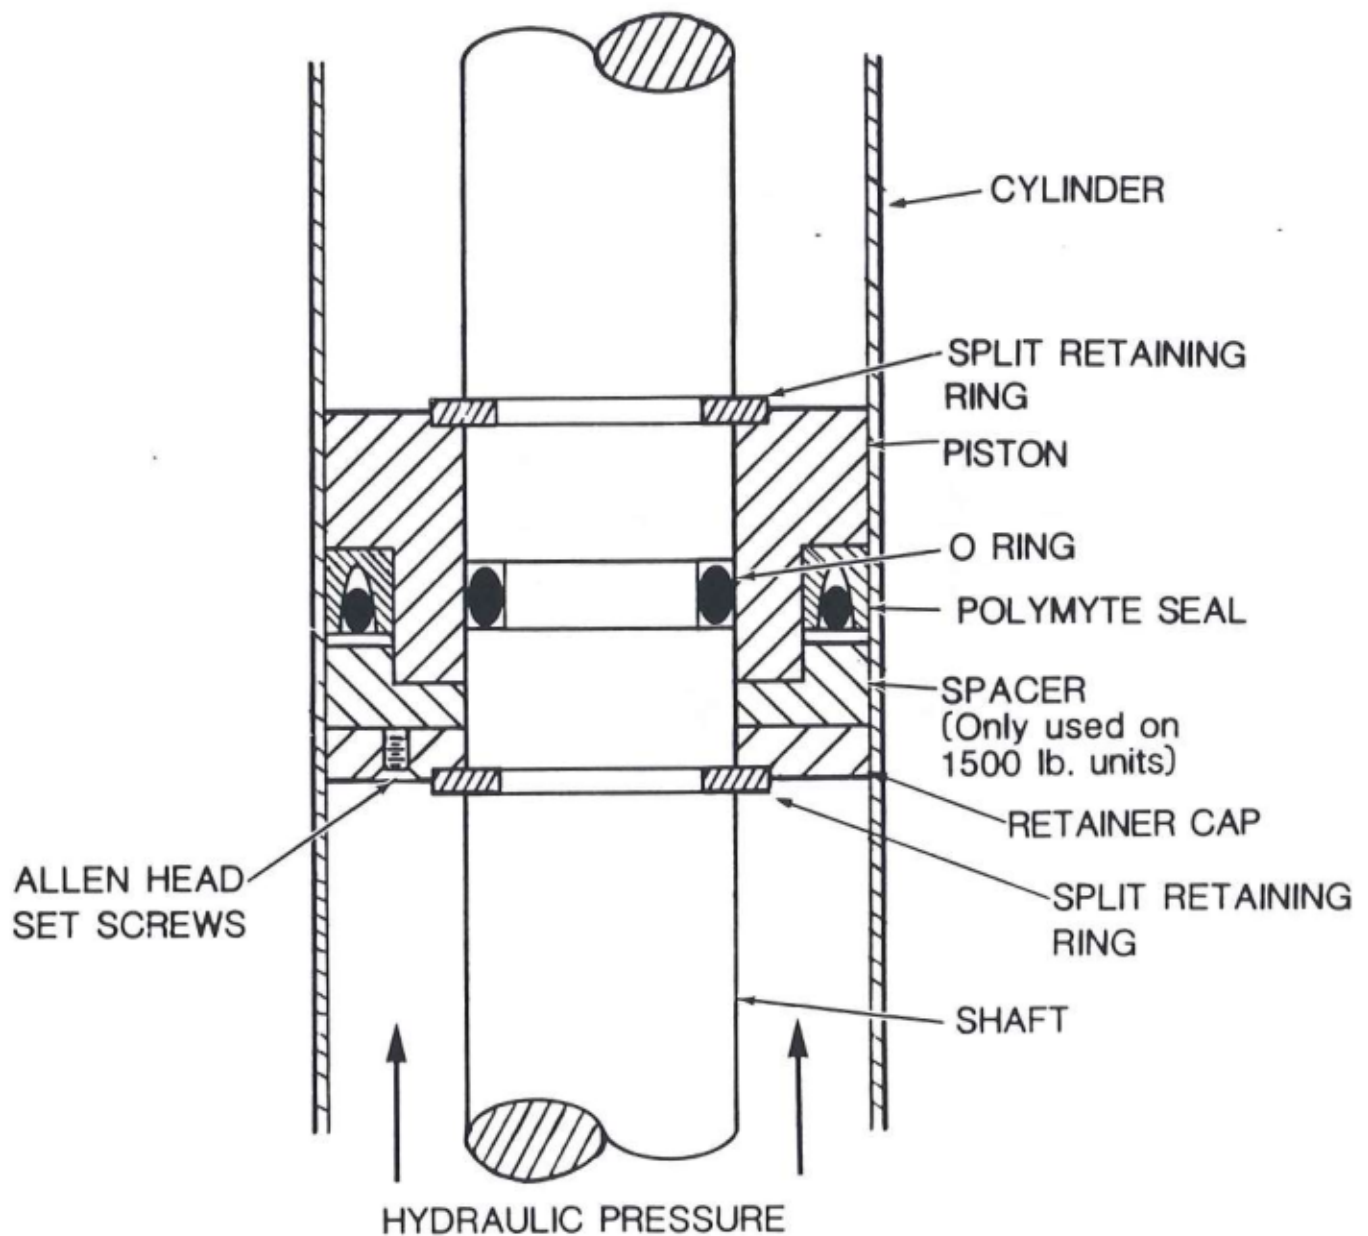

Figure 6-6. Shaft and Piston Assembly, Pull Type
- 2). Remove the pressure-side split retaining ring (see Figure 6-6 or 6-7) 90° offset split ring pliers (external) are recommended.